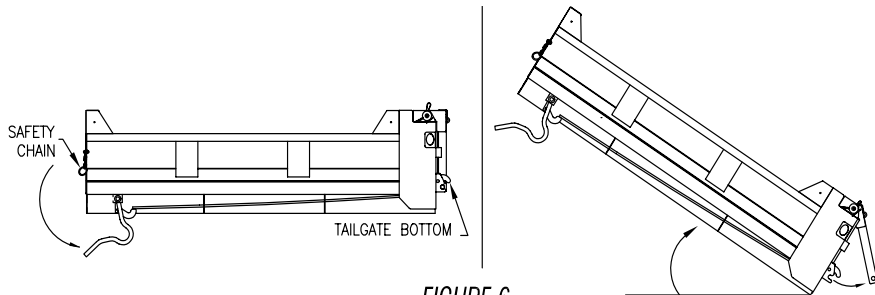

FIGURE 6
2. Rotate handle down to release tailgate bottom as shown in Figure 6.